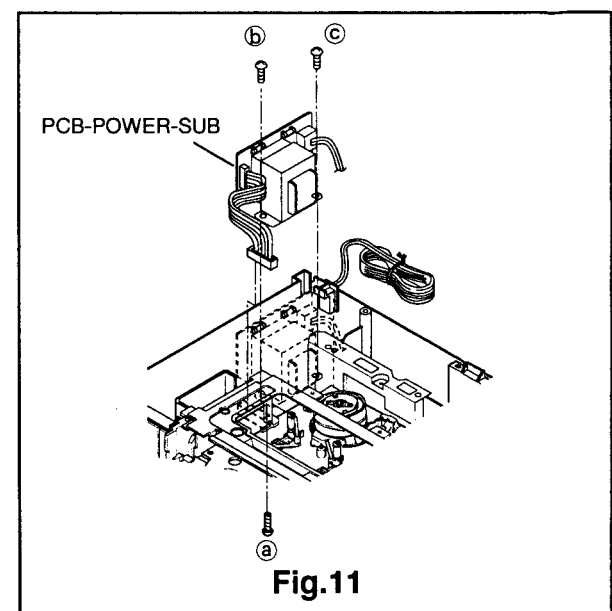

Fig.11
- ① Remove the Top Cover referring to Para. 1 of the DISASSEMBLY.
- ② Remove one fastening screw (a) on the bottom shown in Fig. 11 and two screws (b and c:669D221O40) holding the transformer, and raise the PCB-POWER-SUB to remove it.